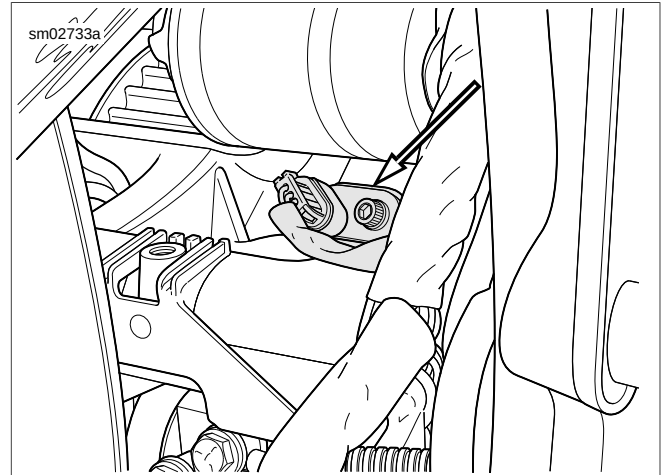

Figure 7-88. Vehicle Speed Sensor
4. See Figure 7-88. Disconnect 3-place vehicle speed sensor connector [65].
1. See Figure 7-88. Install sensor into transmission case using mounting bolt. Tighten bolt to 84-108 in-lbs (9.5-12.2 Nm).